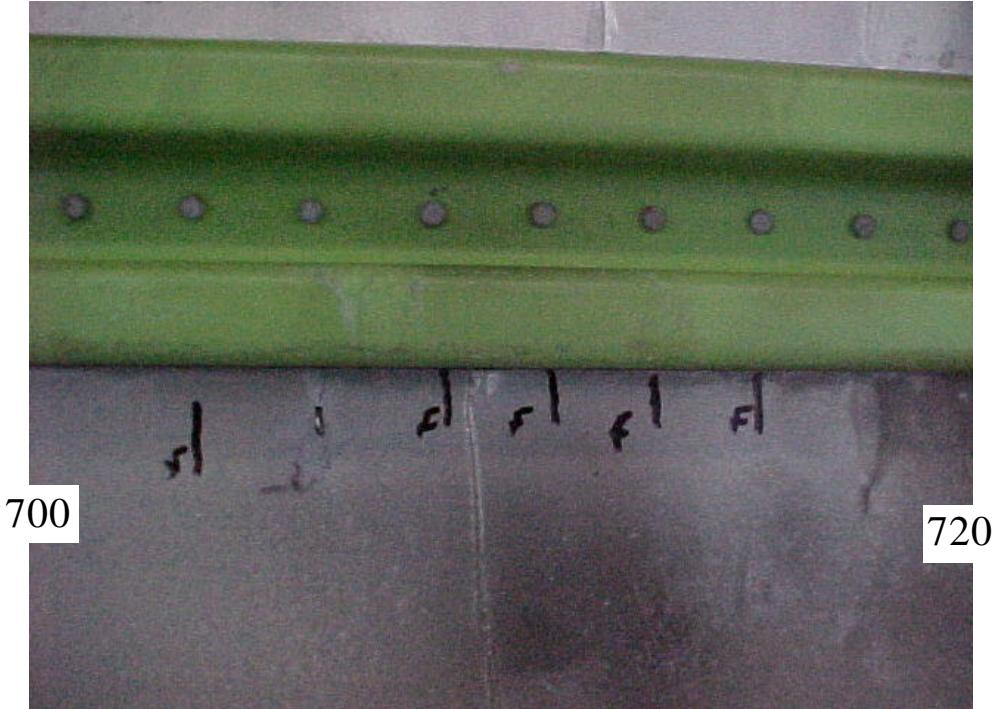

Figure C-12. Photograph of indication locations found during DVI and MFEC inspections. Stringer 4R, BS 700 to BS 720.
- FIGURE C-12 Photograph of indication locations found during DVI and MFEC inspections.